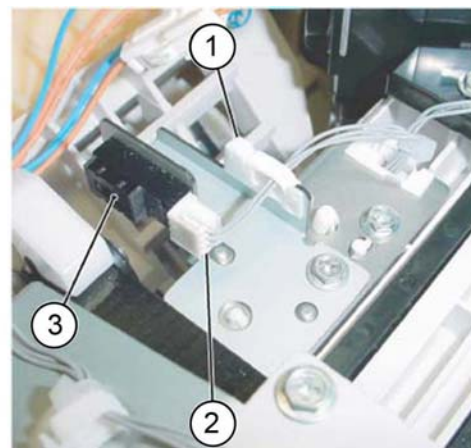

Figure 3 Eject home sensor removal
8. Remove the eject home sensor, Figure 3:
- a. Release the harness from the clamp (1).
- b. Disconnect the connector (2).
- c. Remove the eject home sensor (3) from the bracket.